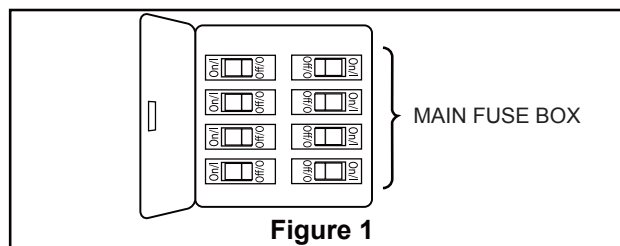
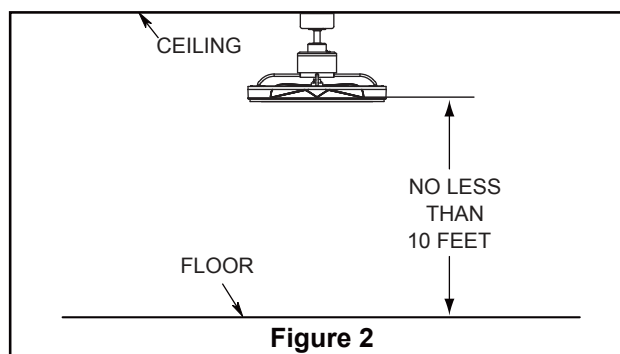
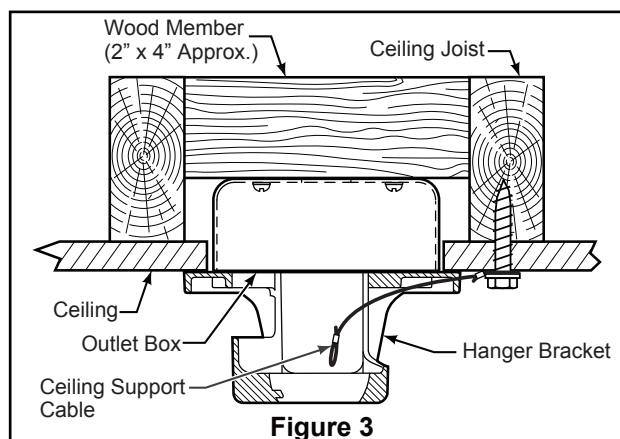

Figure 1
Figure 2
Figure 3
Your new ceiling fan will require a grounded electrical supply line of 120 volts AC, 60 HZ, 15 Amp Circuit. Electrical code requires use of a fan-rated outlet box to support the extra weight and motion associated with a ceiling fan. A fan-rated box will be labeled as such and typically supports up to a 70lb ceiling fan. Fan-Rated Outlet Boxes vary in ratings and design. Ensure the ratings of your ceiling fan outlet box meet the requirements for the ceiling fan being installed. Figure 1, Figure 2 and Figure 3 depicts different structural configurations that may be used for mounting the outlet box.
Low profile box (Figure 1)
Deep box (Figure 2)
Deep box with brace (Figure 3)
- ☐ 1. Remove the hanger ball portion from the downrod/hanger ball assembly by loosening the set screw in the hanger ball until the ball falls freely down the downrod. Remove the pin from the downrod, then remove the hanger ball. Retain the pin and hanger ball for reinstallation in Step 6. (Figure 1)
- ☐ 2. Remove the hairpin clip and clevis pin from the bottom of the downrod. Retain the pin and clip for reinstallation in Step 4. (Figure 2)
- ☐ 3. Loosen the two set screws and locking nuts in the downrod support of the motor assembly. Route the black, white and blue wires and safety cable through the downrod. (Figure 3)
To avoid possible fire or shock, be sure electricity is turned off at the main fuse box before hanging. (Figure 1)
The fan must be hung with at least 10' of clearance from floor to blades. (Figure 2)
- ☐ 1. Securely attach the hanger bracket to the outlet box using the outlet box screws and washers supplied with the outlet box. (Figure 3)
- ☐ 2. Drill a 1/4" pilot hole into the building structure to prevent splitting or cracking with installation of the lag bolt. Using the 3/8" x 2" lag bolt and flat washer, attach safety cable to ceiling joist or wood structural member. The lag bolt will pass through the flat washer, safety cable loop, and into the building structure. (Figure 3)
1. To set the code on receiver unit, slide dip switches to the same positions as set on the remote. (Figure 1)
To avoid possible electrical shock, be sure electricity is turned off at the main fuse box before wiring. (Figure 2)
2. Slide the receiver into the hanger bracket before wiring as shown in figure 3.
- ☐ 2. Securely attach and tighten the canopy screw cover over the shoulder screws in the hanger bracket utilizing the keyslot twist-lock feature. (Figure 2)
- ☐ **2.** Restore electrical power to the outlet box by turning the electricity on at the main fuse box. (Figure 2)
- ☐ **3.** To make fan operational, install 23A/12V battery (included) in hand-held remote transmitter, with fan power off. Then follow the remote code setting process. (If not used for long periods of time, remove battery to prevent damage to transmitter). Store the remote away from excessive heat or humidity. (Figure 3)